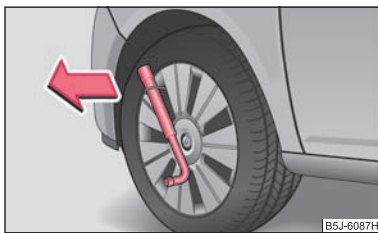

Fig. 152 Removing the full wheel trim
- Push the wheel key through the clamp, support the wheel key on the tyre and pull off the wheel trim ⇒ fig. 152.